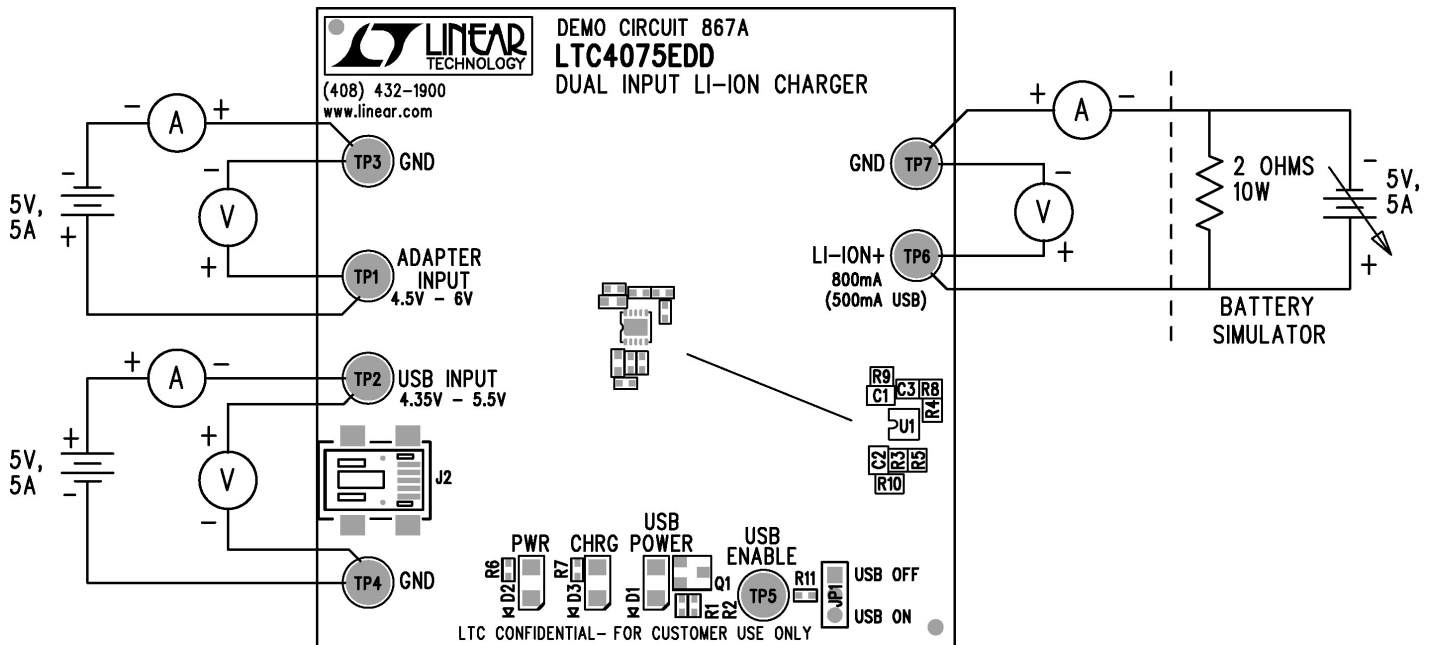

Figure 1. Proper Measurement Equipment Setup
Demonstration circuit 867 is easy to set up to evaluate the performance of the LTC4075X. Refer to Figure 1 for proper measurement equipment setup and follow the procedure below:
1. With the input power supply and battery simulator power supply adjusted to 0V, connect the two power supply outputs to the **ADAPTER INPUT** and **GND** terminals; and **LI-ION+** and **GND** terminals as shown in Figure 1 to test AC adapter charging mode. Make sure that **USB ENABLE** terminal (turret) is floating or pulled low for enabling AC adapter mode charging.
4. Set both power supply and battery simulator back to 0V and connect the power supply (or USB source) to **USB INPUT** and **GND** terminals; and **LI-ION+** and **GND** terminals as shown in Figure 1 to test the USB charging mode. Make sure that the **USB ENABLE** jumper is set to "**USB ON**" position for enabling USB input charging mode.